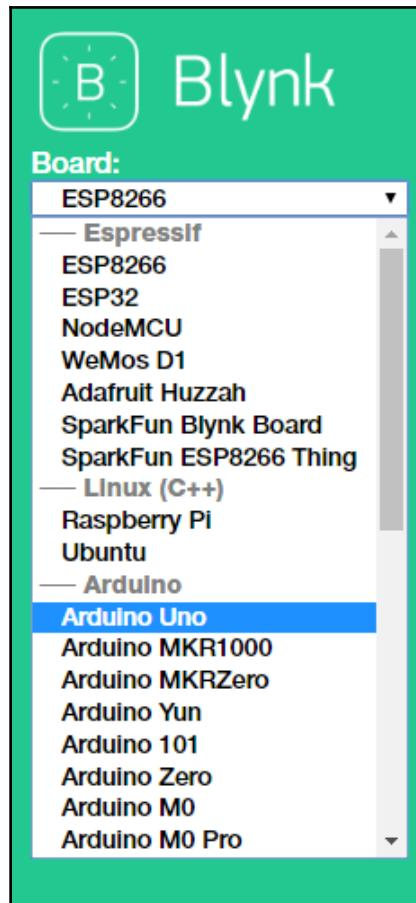

Figure 2.29: Selecting the board type
2. Choose **Arduino Uno** from the **Board** drop-down list (*Figure 2.29*):